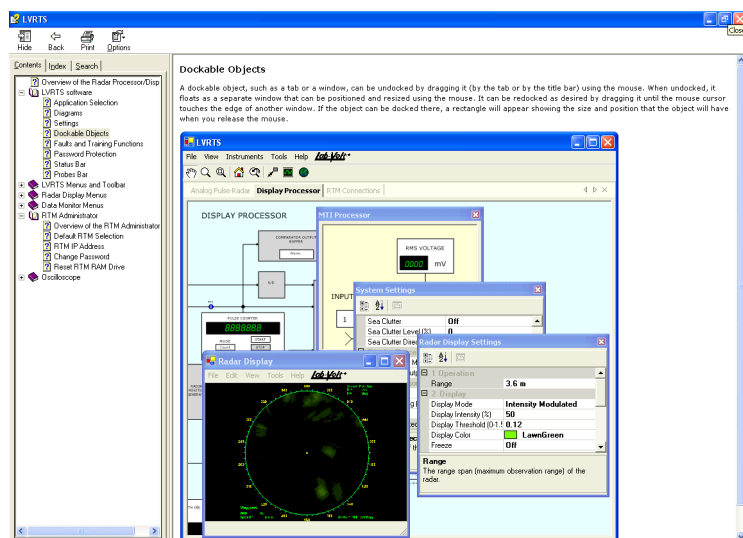

Figure 11. On-line help screens are available through a few clicks of the mouse button.
- Obtain on-line help screens (see Figure 11).